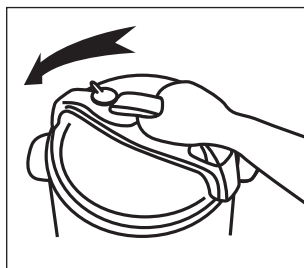

Figure 8
4. Close the Lid (2).
- Check if the Sealing Gasket (20) has been put on the Inner Steel Ring (21).
- Move the Sealing Gasket (20) to make sure it fit snugly in place in the Lid (2).
- Close the Lid (2) and turn the Handle (1) counter-clockwise till a sound of clamping is heard. See the figures 8, 9.